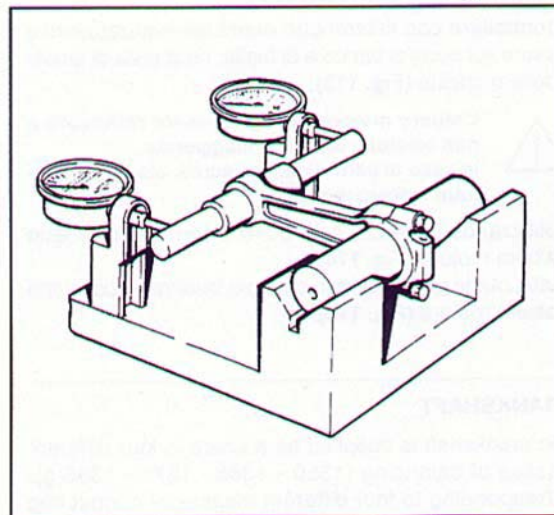

Fig. 110 ▼
- check the connecting rod for squaring (Figs. 110 and 111).